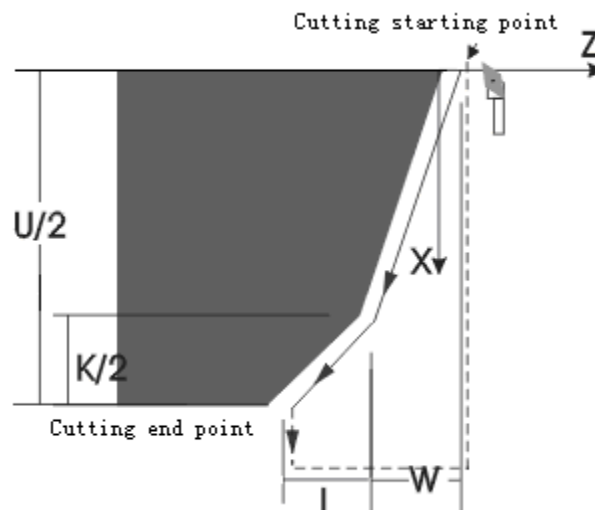

Fig. 4-26
3) G92 end face taper thread: as Fig. 4-26